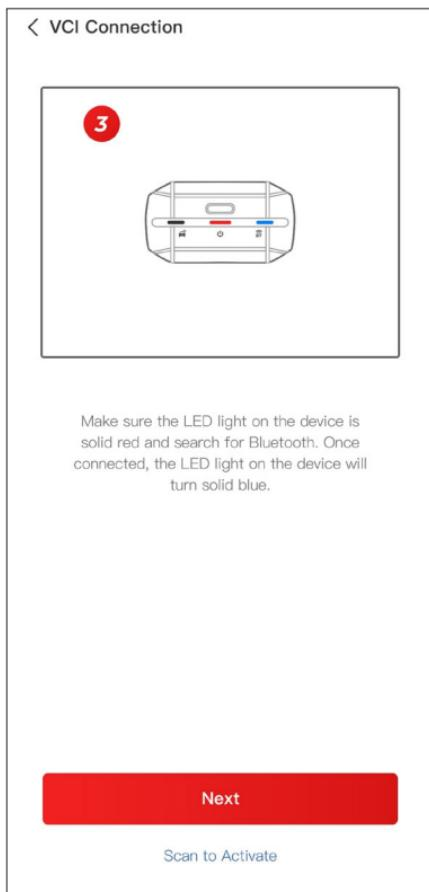

Figure 3-6
③ Make sure the LED light on the device is solid red and search for Bluetooth. Once connected, the LED light on the device will turn solid blue (See Figure 3-6).